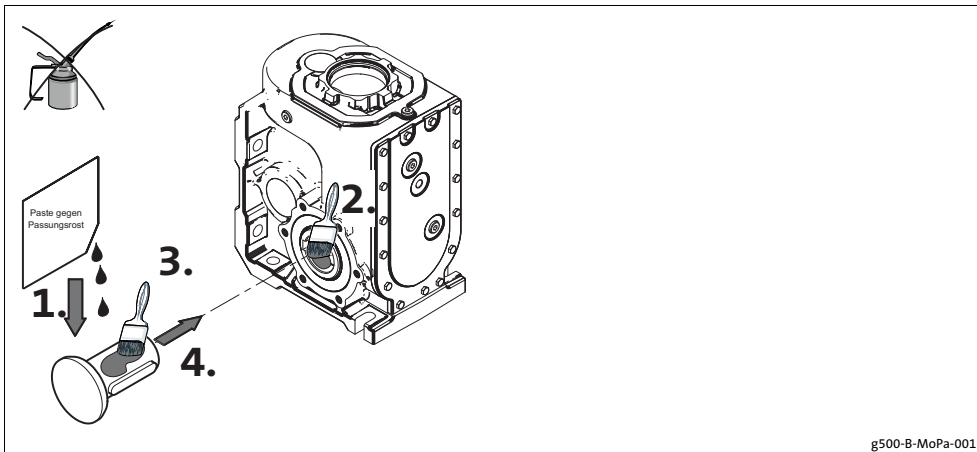

Fig. 11 Application of fitting grease against fretting corrosion
3. Apply a fitting grease (Fig. 11) to the shaft and into the hollow shaft bore.